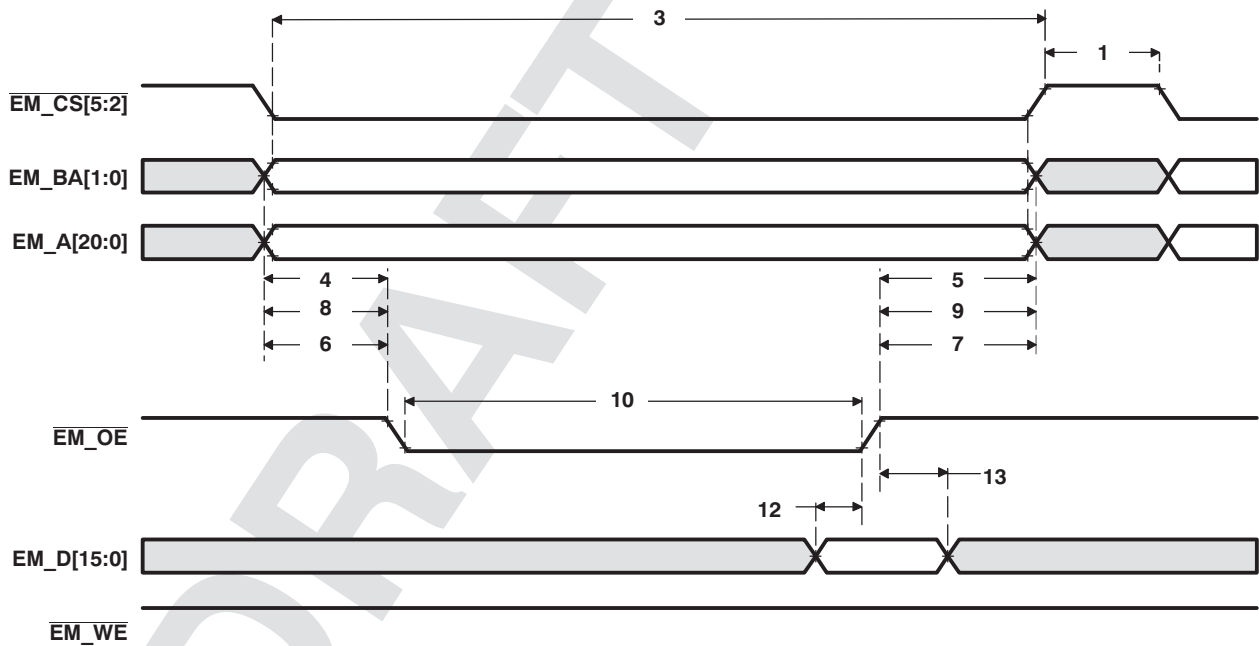
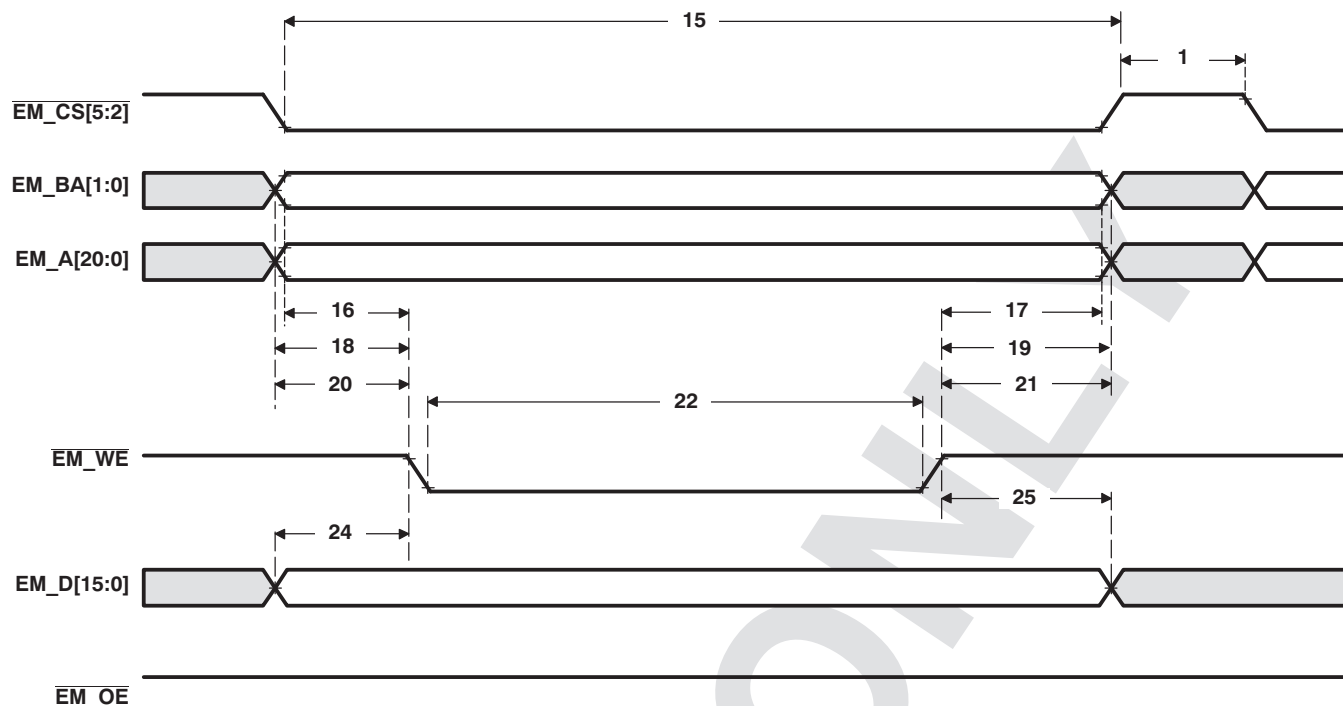
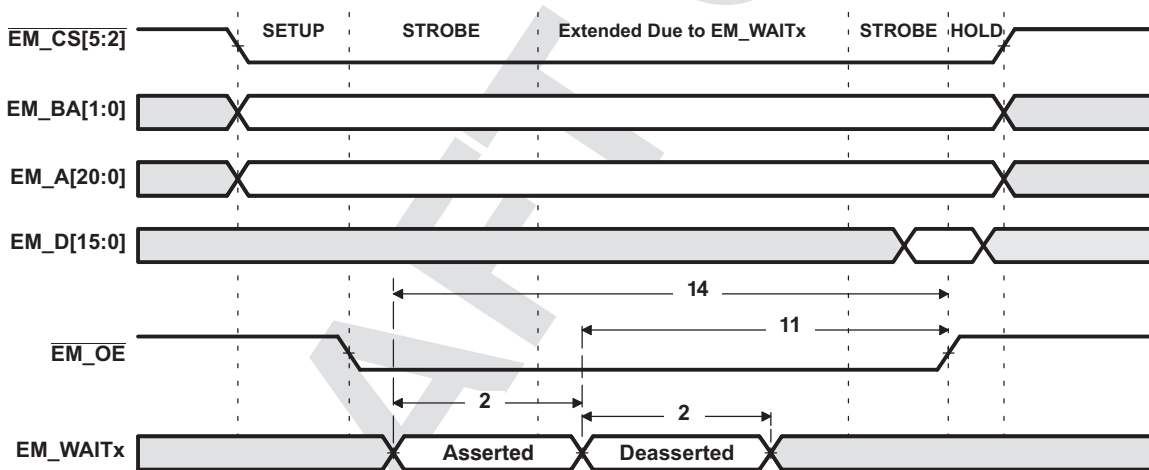
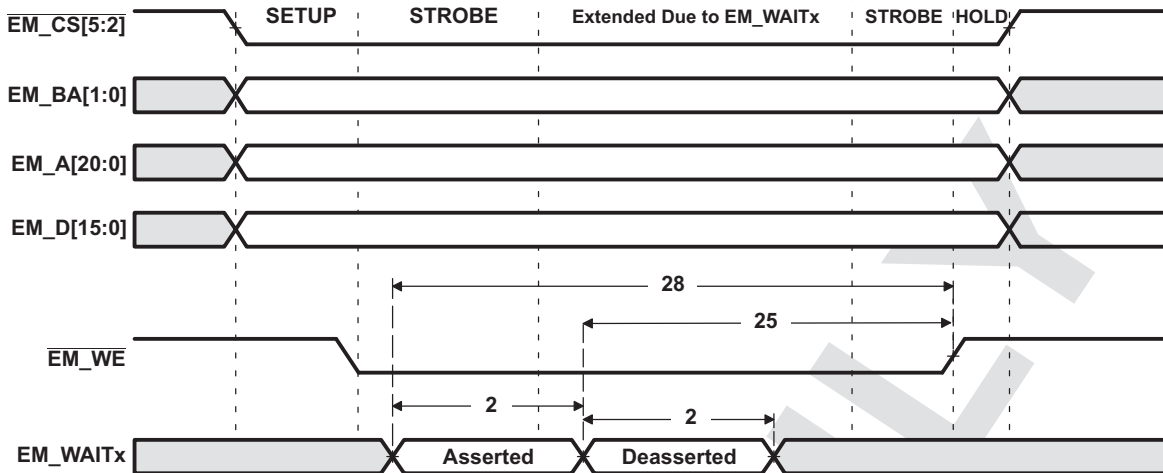

Figure 6-17. Asynchronous Memory Read Timing for EMIF
Figure 6-18. Asynchronous Memory Write Timing for EMIF
Figure 6-19. EM\_WAITx Read Timing Requirements
Figure 6-20. EM\_WAITx Write Timing Requirements
(1) TA = Turn around, RS = Read setup, RST = Read strobe, RH = Read hold, WS = Write setup, WST = Write strobe, WH = Write hold, MEWC = Maximum external wait cycles. These parameters are programmed via the Asynchronous Configuration and Asynchronous Wait Cycle Configuration Registers.
(2) E = SYSCLK period in ns. For example, when SYSCLK is set to 100/120 MHz, E = 10/8.33 ns, respectively.
(3) EWC = external wait cycles determined by EM\_WAITx input signal. EWC supports the following range of values EWC[256-1]. Note that the maximum wait time before timeout is specified by bit field MEWC in the Asynchronous Wait Cycle Configuration Register.
**Table 6-15. Switching Characteristics Over Recommended Operating Conditions for EMIF Asynchronous Memory (1) (2) (see Figure 6-18 and Figure 6-20) (3) (continued)**
(1) E = SYSCLK period in ns. For more detail on the EM\_SDCLK speed see Section 6.9.2, EMIF Non-Mobile and Mobile Synchronous DRAM Memory Supported.
**Table 6-18. Timing Requirements for EMIF Asynchronous Memory(1) (see Figure 6-17, Figure 6-19, and Figure 6-20)**
(1) E = SYSCLK period in ns. For example, when SYSCLK is set to 100/120 MHz, E = 10/8.33 ns, respectively.
(2) Setup before end of STROBE phase (if no extended wait states are inserted) by which EM\_WAITx must be asserted to add extended wait states. Figure 6-19 and Figure 6-20 describe EMIF transactions that include extended wait states inserted during the STROBE phase. However, cycles inserted as part of this extended wait period should not be counted; the 4E requirement is to the start of where the HOLD phase would begin if there were no extended wait cycles.
**Table 6-19. Switching Characteristics Over Recommended Operating Conditions for EMIF Asynchronous Memory(1) (2) (3) (see Figure 6-17, Figure 6-19, and Figure 6-20)**
Table 6-19. Switching Characteristics Over Recommended Operating Conditions for EMIF Asynchronous Memory (1) (2) (3) (see Figure 6-17 , Figure 6-19 , and Figure 6-20 ) (continued)